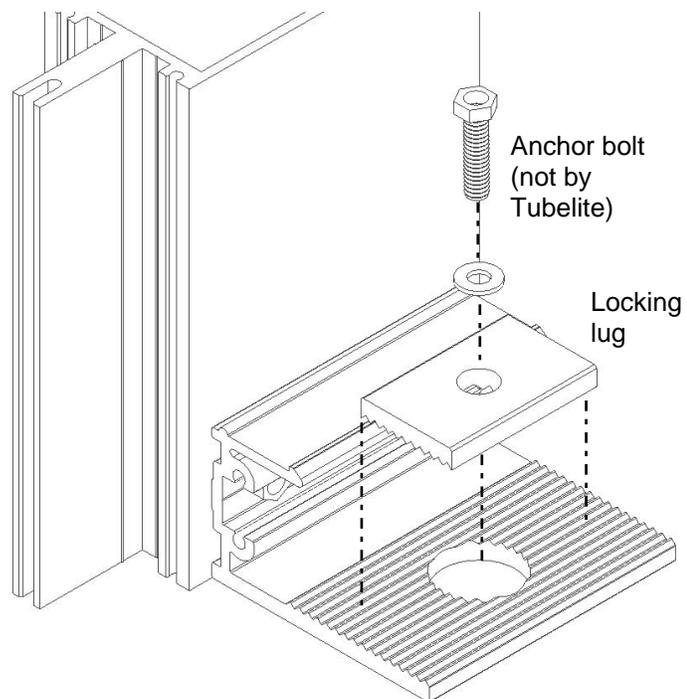

Figure 9: Place a locking lug on the anchor clip and a washer over the locking lug, then fasten an anchor bolt (not by Tubelite) to the masonry.
- Place a locking lug on the anchor clip and a washer over the locking lug as shown in Figure 9. Then fasten the anchor clip to the masonry with the anchor bolt (not by Tubelite) shown in the shop drawings. Head anchor is similar.